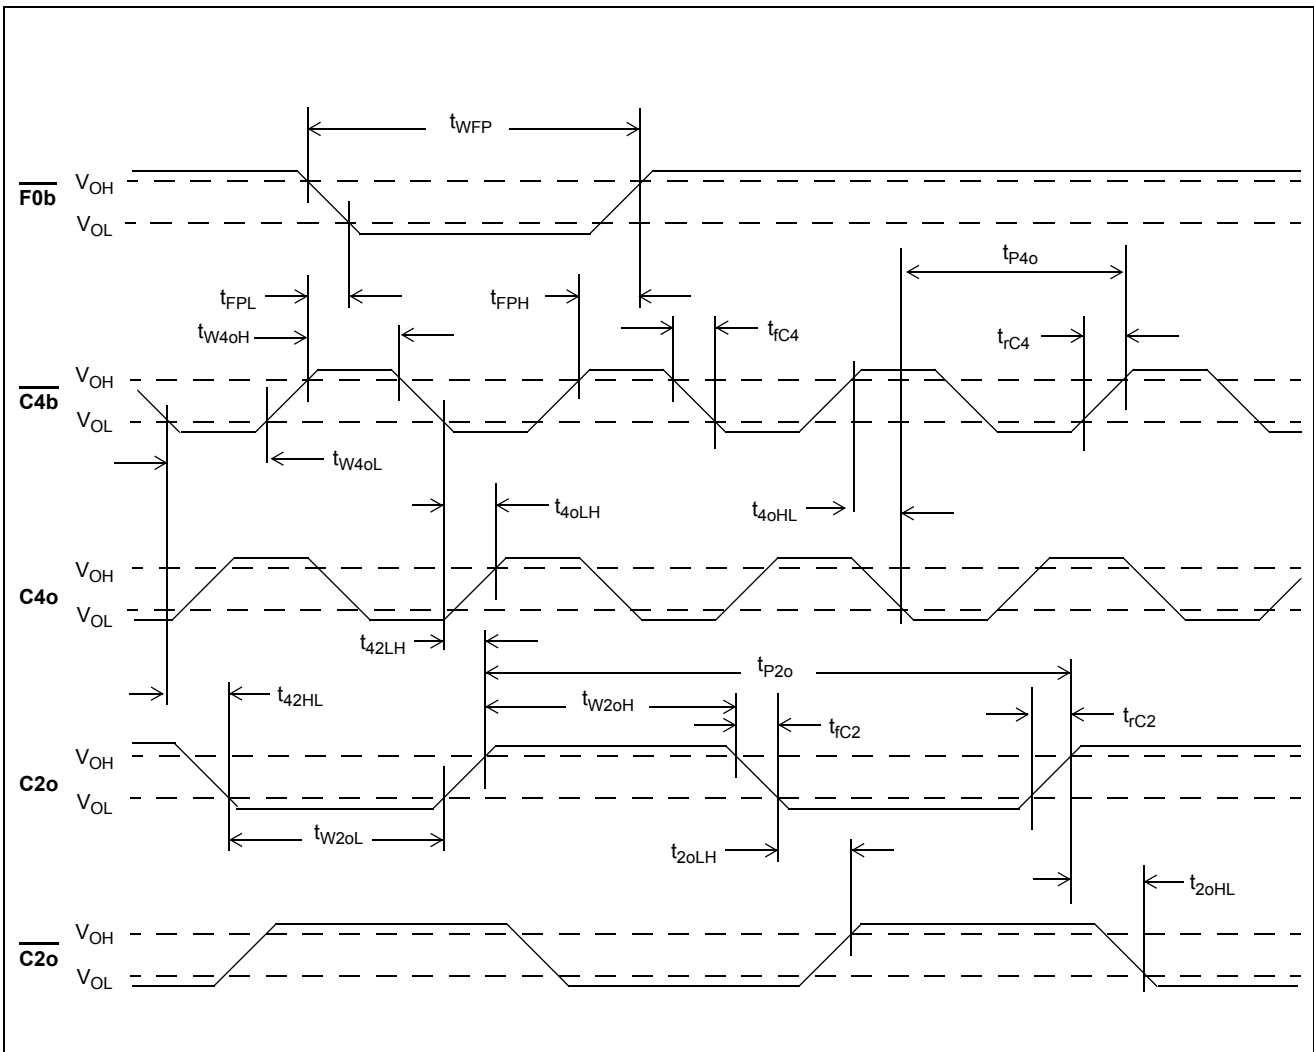

Figure 16 - Timing Information on DPLL #2 Outputs
**AC Electrical Characteristics**†-Voltages are with respect to ground ( $V_{SS}$ ) unless otherwise stated. (Refer to Figure 16)